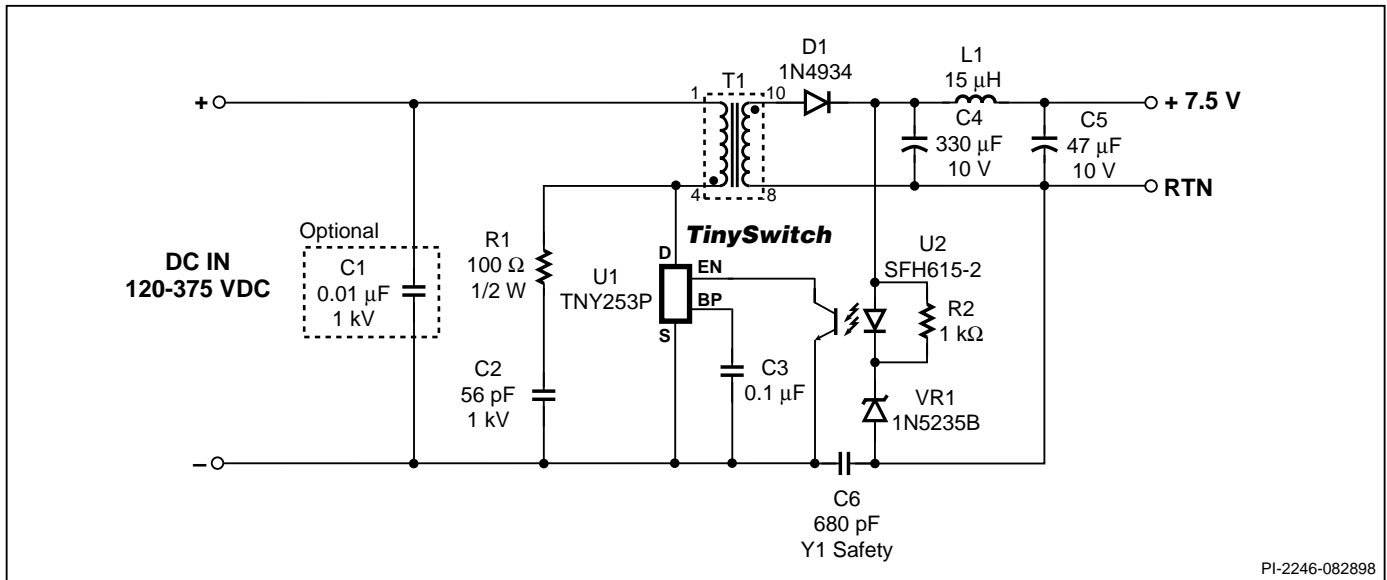

Figure 9. 1.3 W TV Stand-by Circuit using TNY253.
*TinySwitch* is an ideal solution for low cost, high efficiency standby power supplies used in consumer electronic products such as TVs. Figure 9 shows a 7.5 V, 1.3 W flyback circuit that uses TNY253 for implementing a TV standby supply. The circuit operates from the DC high voltage already available from the main power supply. This input voltage can range from 120 to 375VDC depending on the input AC voltage range that the TV is rated for. Capacitor C1 filters the high voltage DC supply, and is necessary only if there is a long trace length from the source of the DC supply to the inputs of the TV standby circuit. The high voltage DC bus is applied to the series combination of the primary winding of T1 and the integrated high voltage MOSFET inside the TNY253. The low operating frequency of the TNY253 (44kHz), allows a low cost snubber circuit C2 and R1 to be used in place of a primary clamp circuit. In addition to limiting the DRAIN turn off voltage spike to a safe value, the RC snubber also reduces radiated video noise by